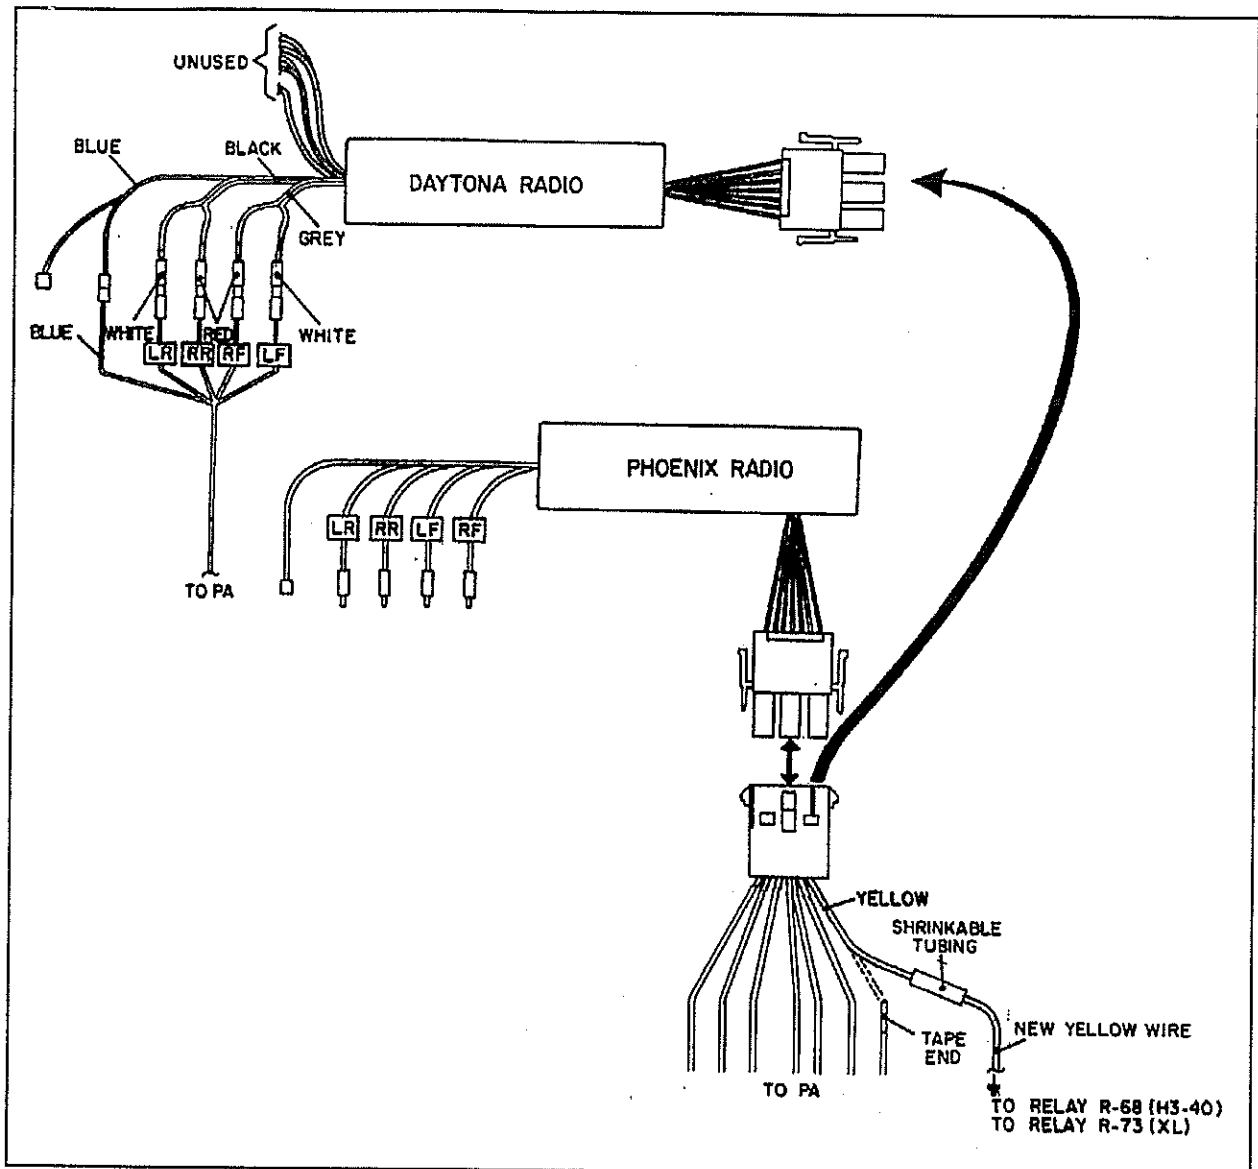

Fig. 1
2. Connect these wires to the corresponding wires of "Daytona" radio according to the color code in figure 1.